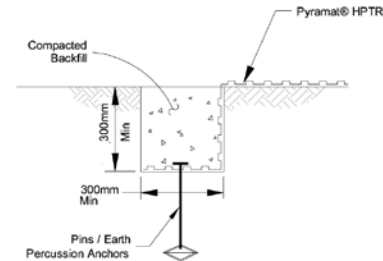

FIGURE 3: LONGITUDINAL EDGE TRENCH DETAIL
- Excavate a longitudinal edge trenches 300mm wide x 300mm deep minimum wide along both sides of the installation to bury edges of mat (see Figure 3). The longitudinal edge trench shall be located 600mm minimum over crest of slope.
- Secure longitudinal edge trench with pinning devices on 300mm centers and with earth percussion anchors on 1.2m centers (see Figure 3).